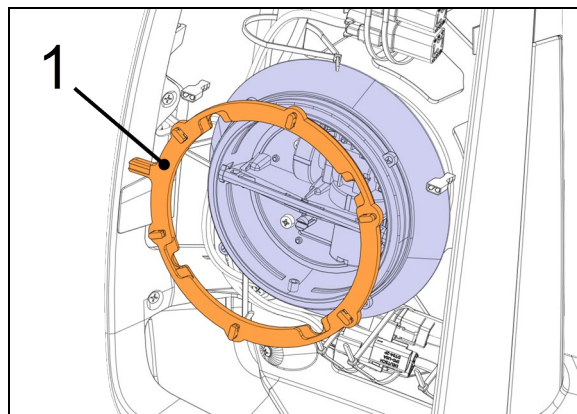

FIGURE 105: (1) LOCK RING
- Remove the lock ring from the motor (item 1, Figure 105).